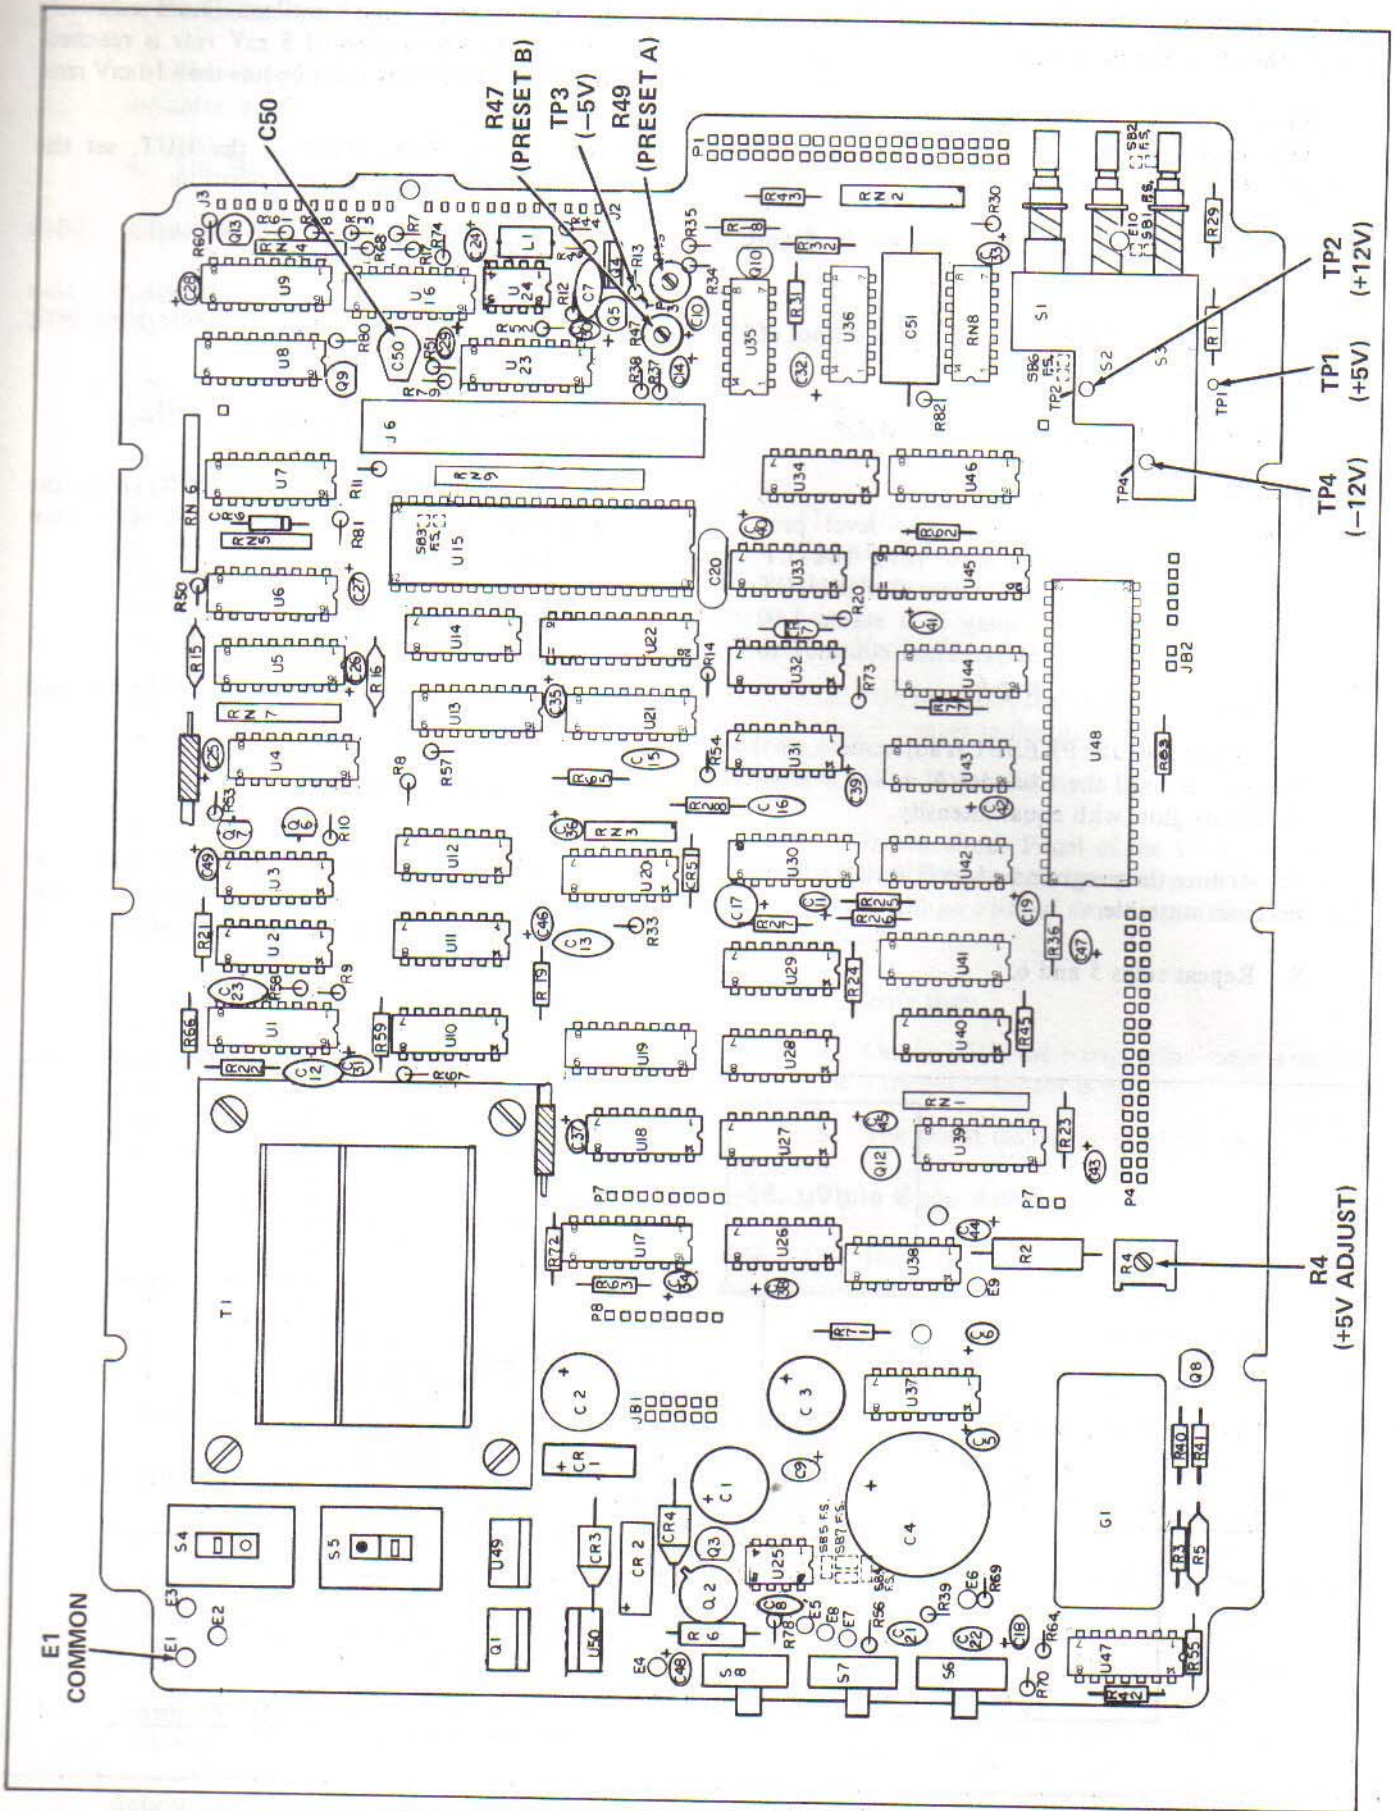

Figure 4-8. Location of Test Points and Adjustments
4-60. Use the following procedure to adjust the power supply voltages in the UUT. Figure 4-8 shows the location of test point and adjustments.
7. Connect the DVM to the UUT, + to TP1, - to E1 (or any other UUT common point). See Figure 4-8 for aid in locating test points or adjustments.